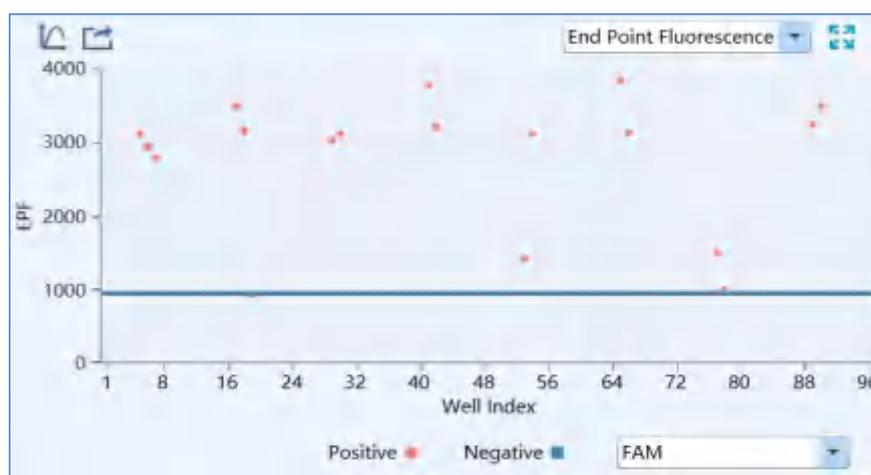

Figure D-17.1. End Point Fluorescence analysis interface - End Point Fluorescence Scatter Plot
- I. **End Point Fluorescence Scatter Plot:** display the scatter plot of fluorescence intensities measured at end the point of amplification plateau phase, as shown in figure D-17.1.